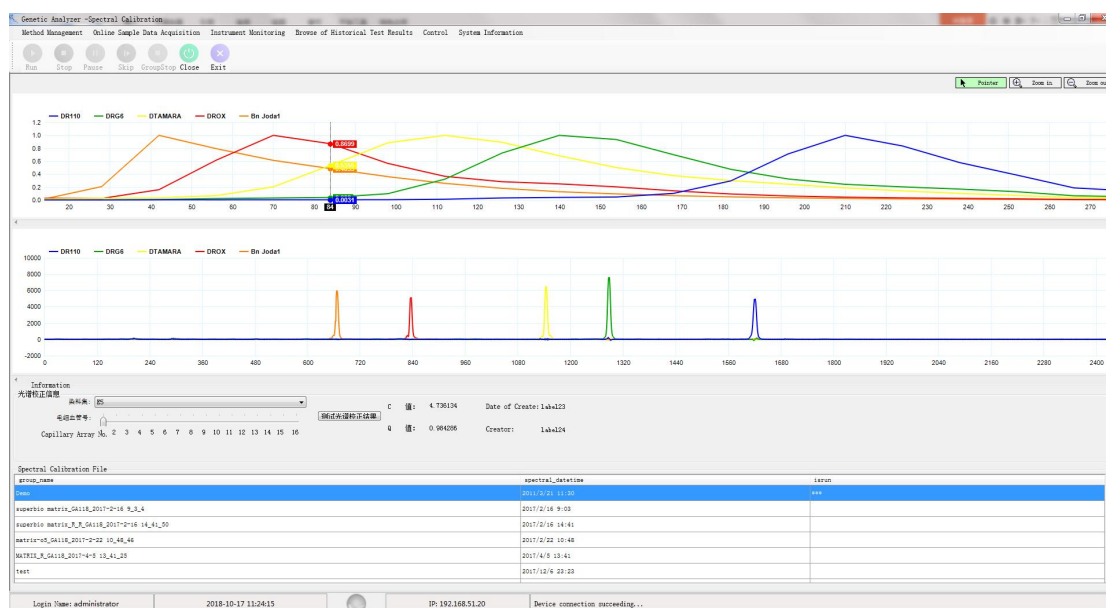

Figure 25. Spectral Calibration Diagram
(2) Select connected form and click the "Run" button. After the test of the samples is completed, the dialog box "Spectral Calibration Result Display" pops up. As shown in Figure 25. Click the "Save Settings as Current" button to save the spectral calibration results, and click the "Discard" button to abandon.